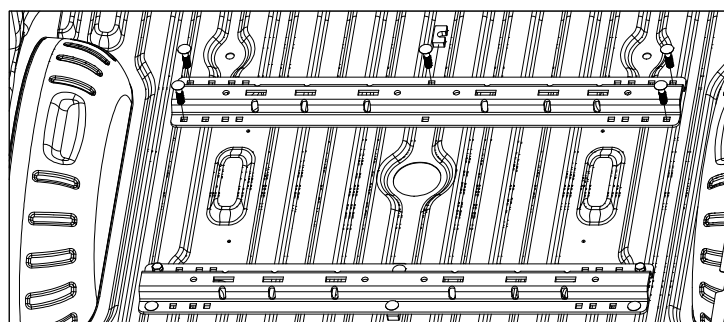

Figure E3: View looking into truck bed from rear of truck.
3. **Install forward mounting rail.** Re-position the forward mounting rail over the drilled 9/16" holes in the bed. Install a 1/2" carriage bolt through the mounting rail into each of the five drilled holes, as shown in Figure E3. Place a u-shaped spacer under the center carriage bolt.